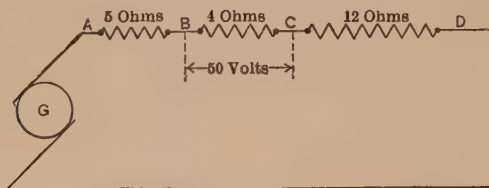

FIG. 53.
**Problem 61.** (a) What is the voltage across  $AD$ , Fig. 53?
**Problem 63.** What would be the combined resistance of the wires in Fig. 53, if they were joined in parallel?